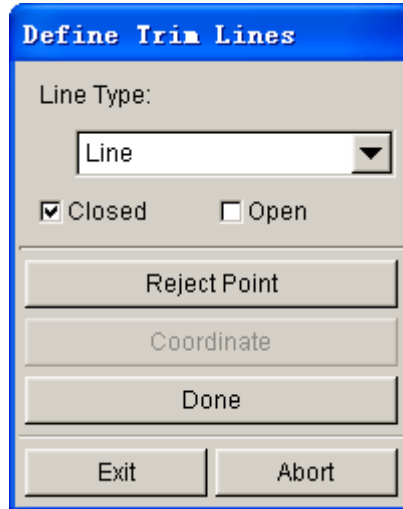

Figure 5.2.22 Define Trim Lines
4. **DEFINE TRIM LINE** as illustrated in Figure 5.2.22 is displayed.